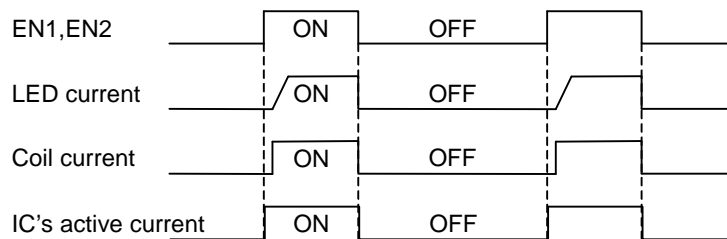

Figure 8. Power control PWM control
2)Power control PWM control is controlled by providing PWM signal to EN1, EN2 as it is shown Figure 8. The current setting set up with PWM logic is chosen as the H section and the current is off as the L section. Therefore, the average LED current is increasing in proportion to duty cycle of EN1, EN2 signal. This method is, because IC can be power-off at off-time, the consumption current can be suppress, and the high efficiency can be available, so it makes it possible to brightness control until 50μs (MIN1% at 200Hz). And, don't use for the brightness control, because effect of power ON/OFF time changeover is big under 50μs ON time and under 50μs OFF time. There is no effect of ON/OFF changeover at 0% and 100%, so there is no problem on use. Typical PWM frequency is 100Hz to 1kHz.